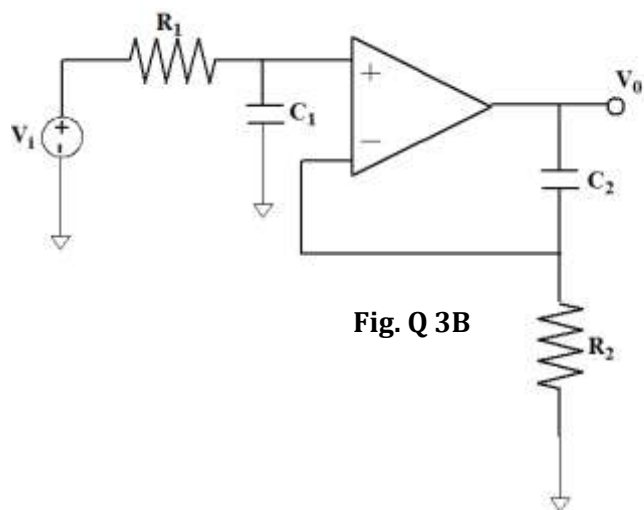

Fig. Q 3B
- 3B. If $R_1 C_1 = R_2 C_2$ in the circuit shown in **Fig. Q 3B**, derive its mathematical model. Further, specify the component values to obtain a gain of 20dB at 100Hz. (03)